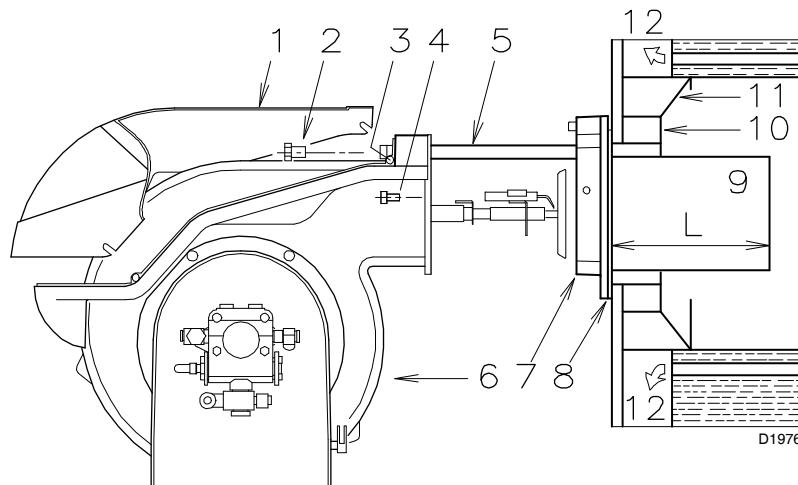

Fig. 8
For boilers having a water-cooled front the refractory fettling 10)-11) (Fig. 8) is not required unless it is expressly requested by the boiler manufacturer.
Secure flange 7) (Fig. 8) to the boiler plate interposing the supplied gasket 8) (Fig. 8). Use the 4 screws provided after having protected the thread with antiscruffing products.
- Retract the burner on its slide bars as shown in (Fig. 8, page 12).